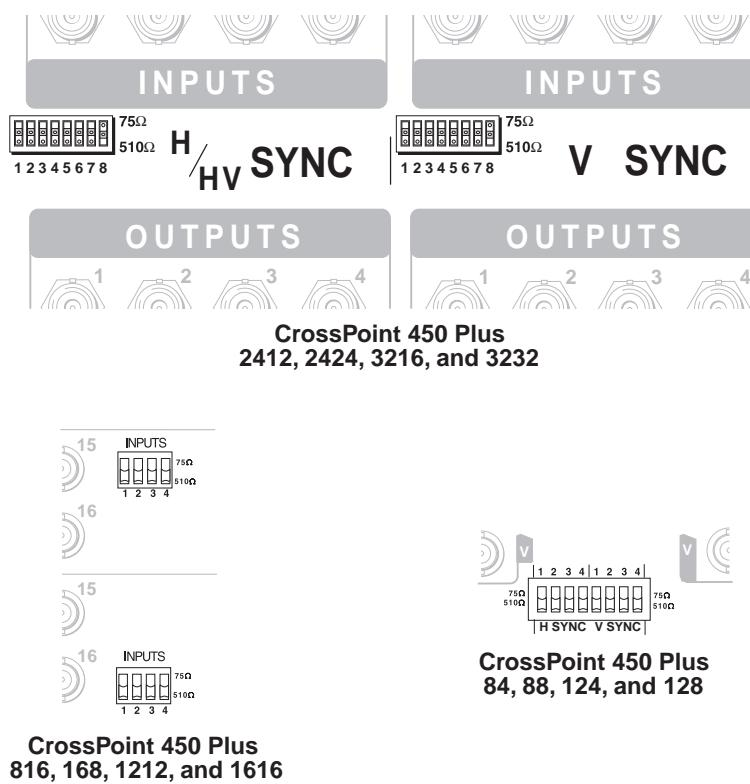

Figure 2-15 — Sync termination switches
- (3) **Sync termination switches** — The CrossPoint 450 Plus matrix switchers have sync termination switches on the rear panel for inputs 1 through 8 (CrossPoint 450 Plus 2412, 2424, 3216, and 3232) or inputs 1 through 4 (CrossPoint 450 Plus 84, 88, 124, 128, 816, 168, 1212, 1616). The switches (figure 2-15) provide a way to condition non-TTL sync levels greater than 5 Vp-p, enabling the sync to be properly passed from input to selected output(s). The matrix switchers have two sets of sync termination switches; one for horizontal or combined sync and a second set for vertical sync.